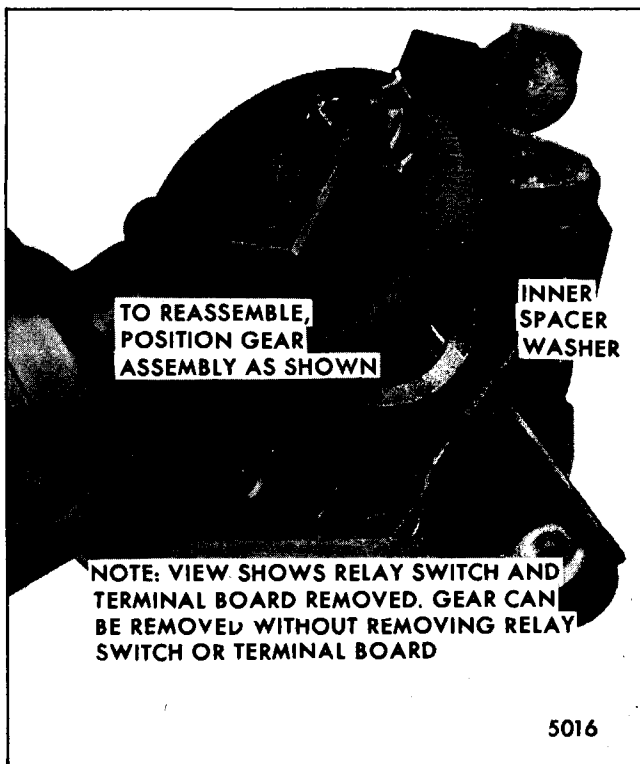

Fig. 2-41-Removing Gear
2. Slide gear assembly out of housing (Fig. 2-41).
6. Assemble inner spacer washer over gearshaft and assemble gear mechanism in housing so that it is positioned with respect to the housing in the approximate location shown in Fig. 2-41.